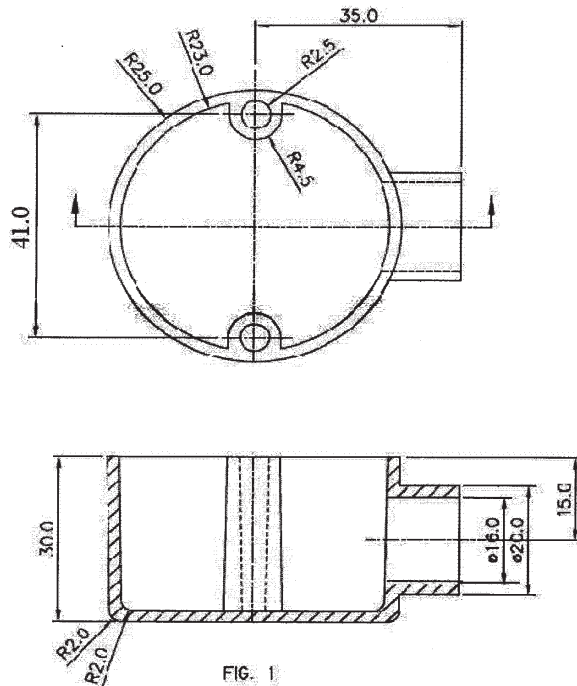

FIG. 1
- Q7)** Design a 2 cavity mold for the component shown in figure 1. Draw at least 2 views with one sectional view to bring out the details of the feed, cooling and ejection system. Illustrate the relevant design calculations. [30]